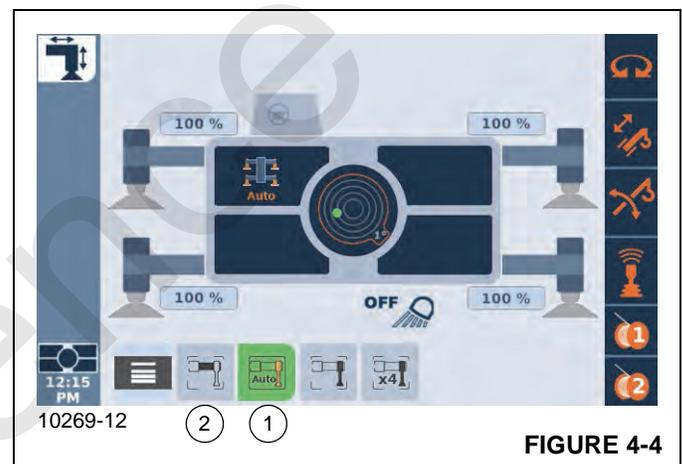

FIGURE 4-4
The Auto-level icon (1, Figure 4-4) shows to the right of the O/R Beams icon (2) on the Outrigger Extend/Retract function screen of the Operator Display Module (ODM).